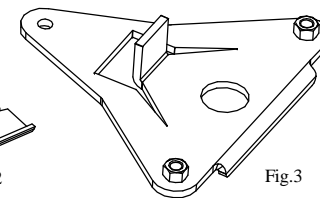
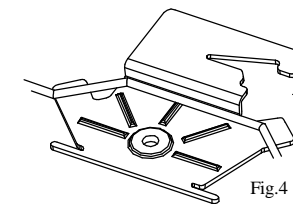

Fig.3
Fig.4
4. In types produced since 1993 disassemble element - see fig.3 (element not used any more). In types produced since 1997 unscrew elements - see fig.4, and next (before mount) straight theirs protruding parts.